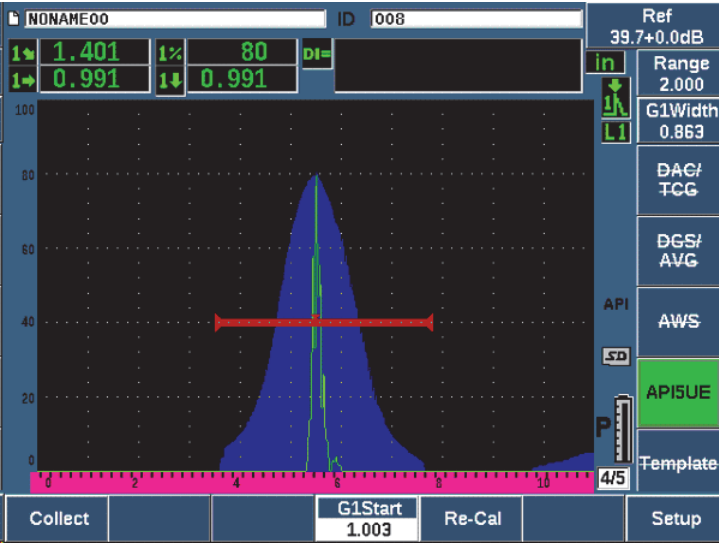

Figure 11-23 Calibration data in collect mode
The letter **P** appears to the right of the live A-Scan display (see Figure 11-23 on page 271).
5. Press **Collect** (**P1** key) to collect the A_{max} , T_1 , and T_2 data from the envelope (see Figure 11-23 on page 271).